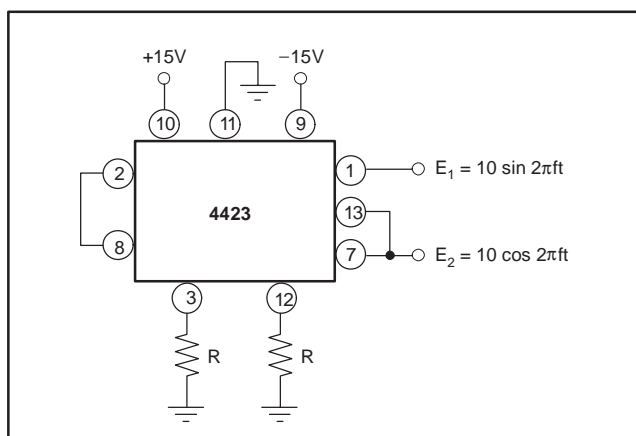

Figure 5.
For resistor-programmable frequencies in the 2kHz to 20kHz frequency range, the connection diagram is provided in Figure 5. Note that only two resistors of equal value are required. Resistor R can be expressed by Equation (1).